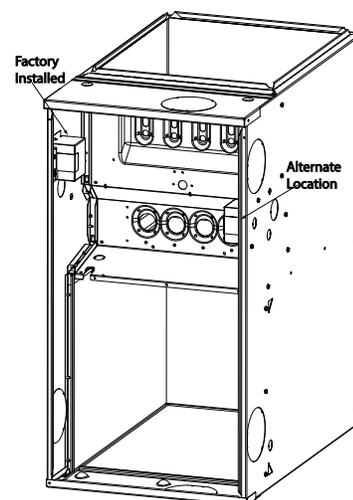

Fig. 24 – Relocating J-Box
1. Remove and save two screws holding J-Box, see Fig. 24.
NOTE: The J-Box cover need not be removed from the J-Box in order to move the J-Box. Do NOT remove green ground screw inside J-Box, see Fig. 24.
4. Remove and save two screws holding J-Box, see Fig. 24.